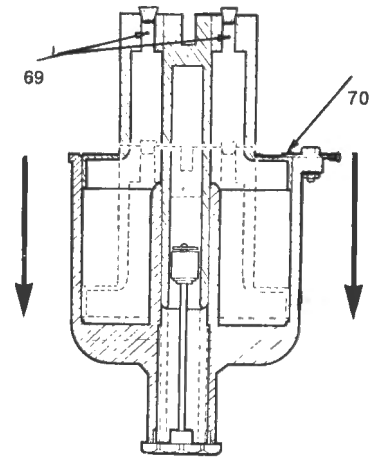

Fig. F-31
- 10 Examine the piston assembly for damage on the piston rod and the outside surface of the piston. The piston assembly must be scrupulously clean. Use a suitable alcohol solvent as a cleaning agent. **DO NOT USE ABRASIVES.** Wipe the piston dry using a clean cloth. Refer Fig. F-31.